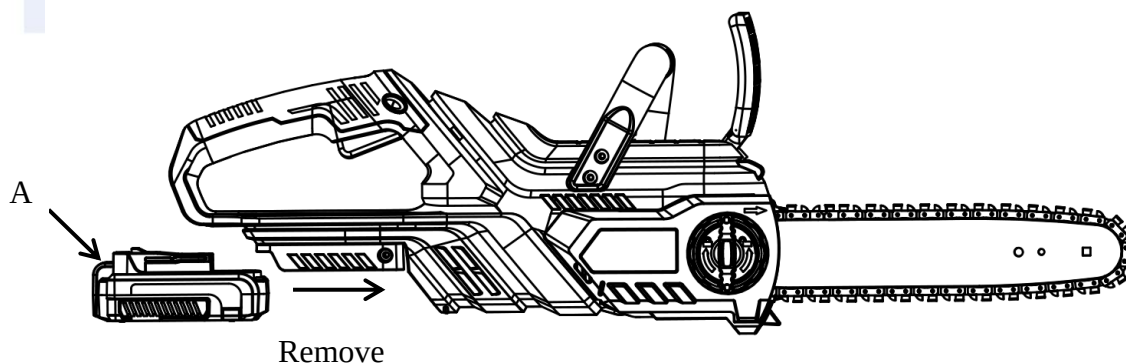

Figure 3
1. Insert the battery pack, groove along the handle and insert in the full position, until the Battery Release Button (A) bounce back to normal position again, (See Figure 3).
1. withdraw the battery pack from the tool while pulling the Battery Release Button (A) down. (see Figure 3).